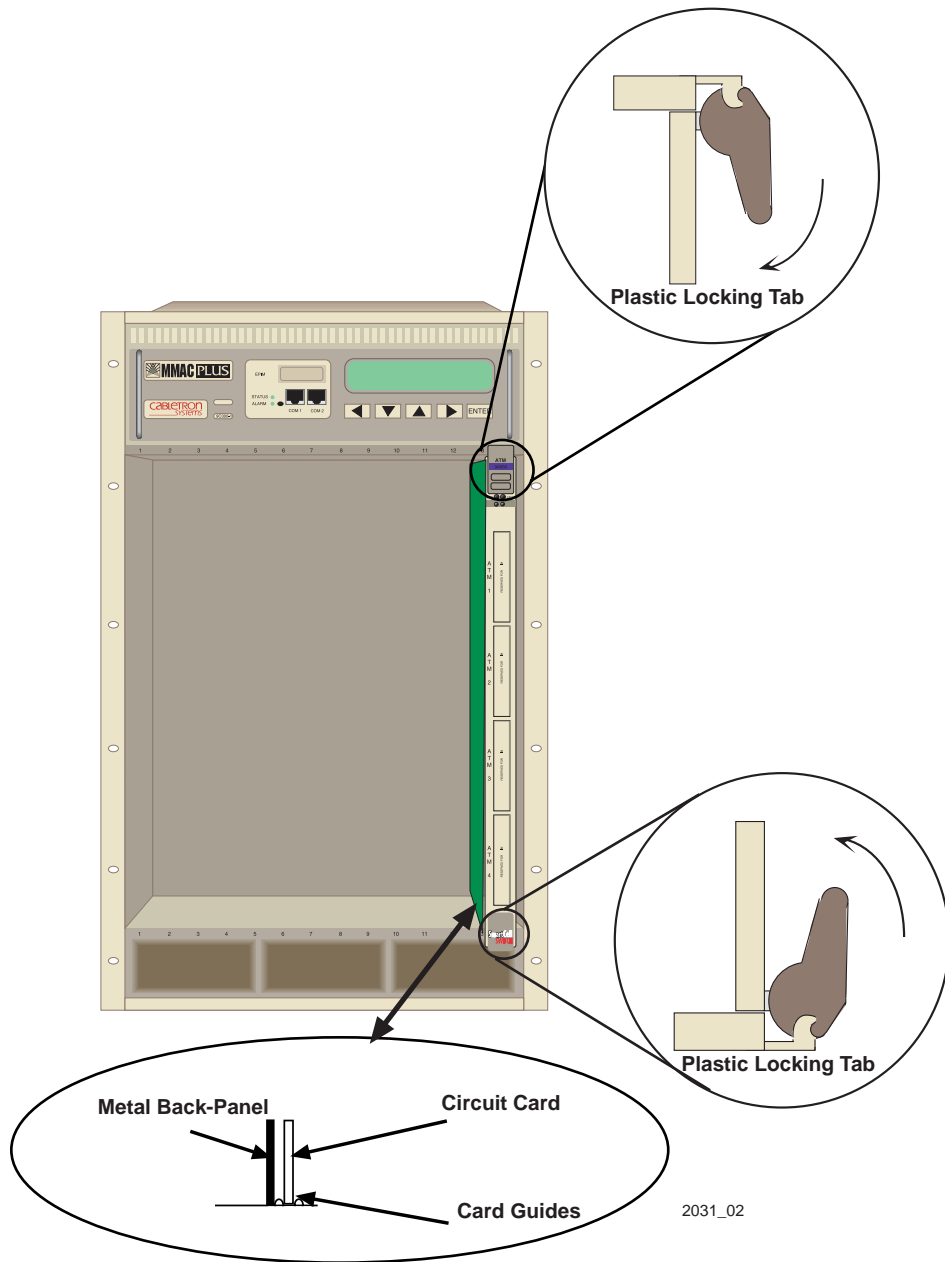

Figure 2-1. Installing the 9A656-04
5. Install the 9A656-04 module in the chassis by aligning the module card between the upper and lower metal slot guides of any available slot, sliding it into the chassis, and locking down the top and bottom plastic tabs, as shown in Figure 2-1. Take care that the 9A656-04 slides in straight and properly engages the backplane connectors.